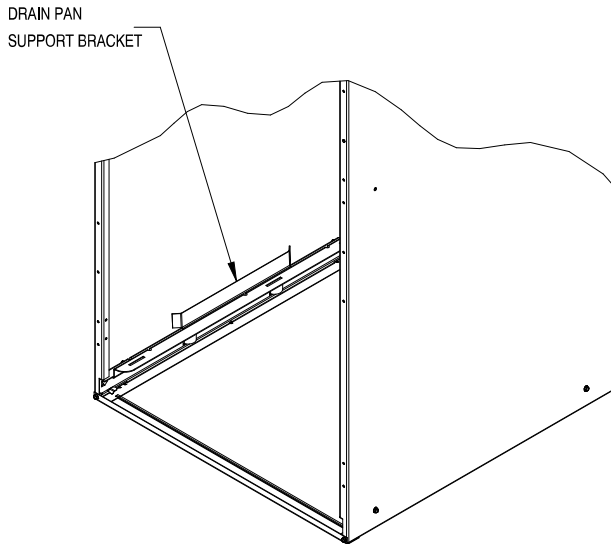

Fig. 8 – Drain Pan Support Bracket
7. Remove horizontal drain pan support bracket from coil support rail on left side of unit and reinstall on coil support rail on right side of unit (Fig. 8).